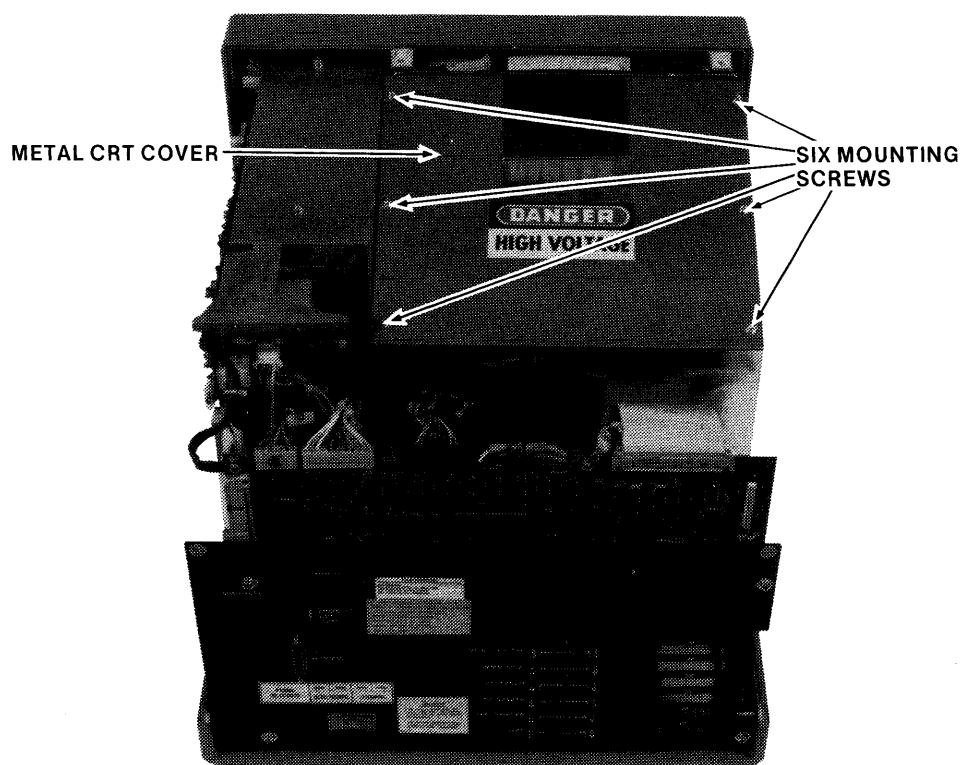

Figure 4-11. Metal CRT Cover Removal
4. Remove the metal CRT cover by unfastening the six screws shown in Figure 4-11.